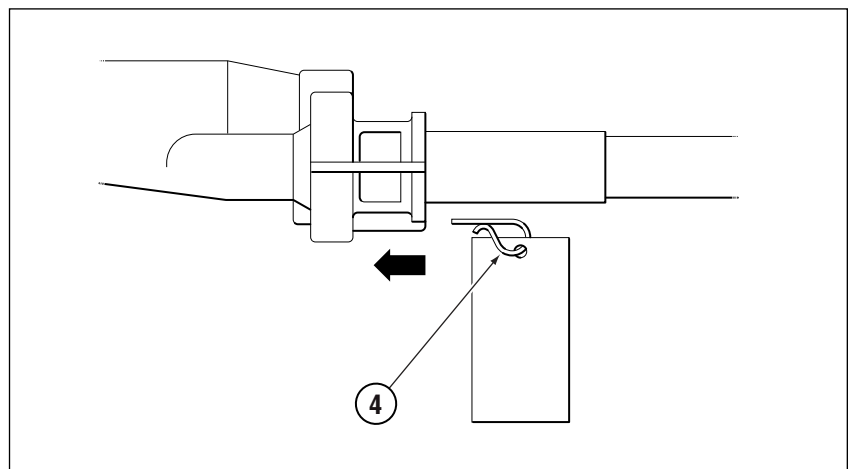

Figure 3.
STEP 3. Replace the pin as shown in Figure 3, making sure that it is fully seated. DO NOT REMOVE TAG FROM PIN. This tag must be left in place for vessel safety during future steering maintenance.